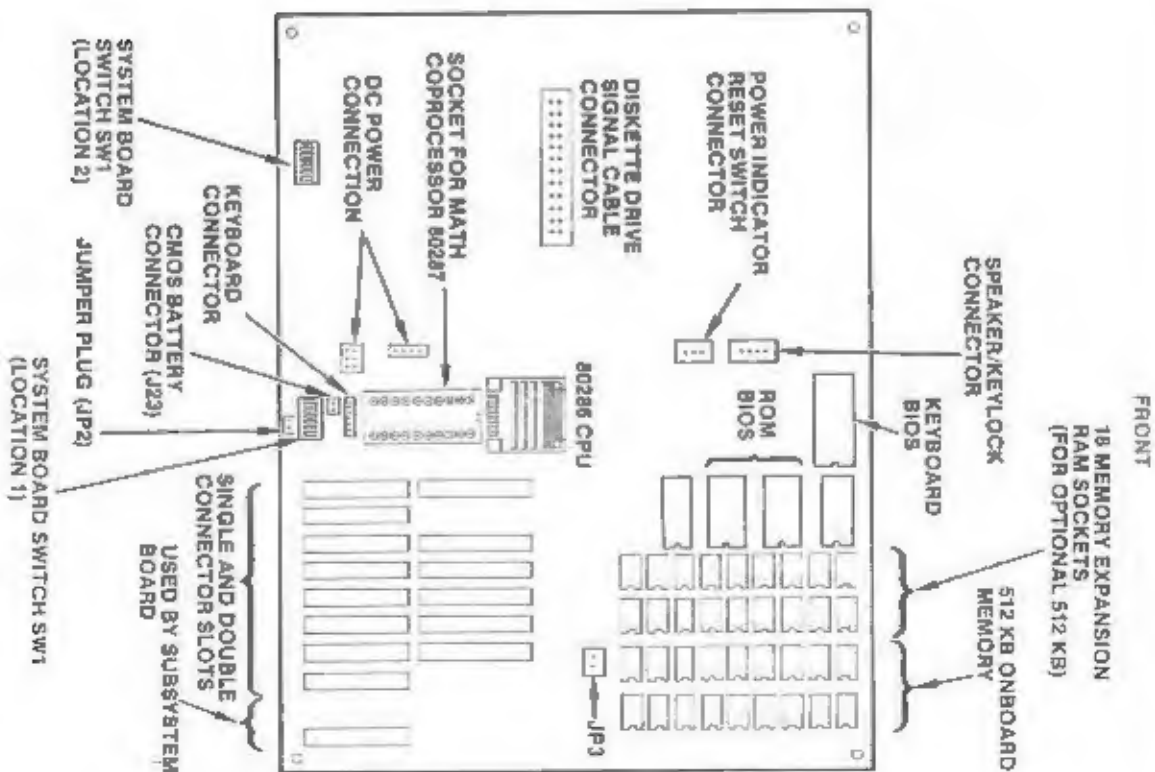
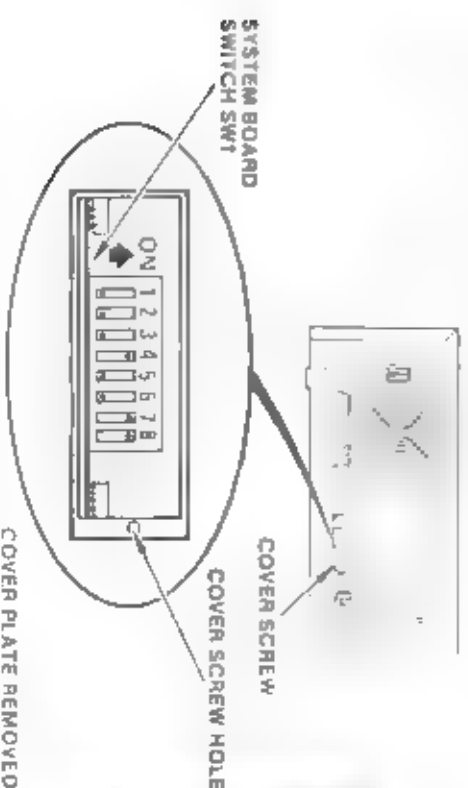

Figure 2-3. System Board
Figure 3-7. System Board SW1 Switch in Location 2
Figure 2-3 identifies connectors, switch SW1, jumper plug JP2, and chip sockets on the system board (the floor of the system unit). The connectors into which the controller boards are inserted are also shown in Figure 2-3.
Some boards must be installed in single or double-connector locations (Figure 2-3); the rest can be used in any location. Examine the bottom edge of the board to see where it will fit.
There are two possible locations for SW1. Figure 2-3 (in section 2.2) shows location 1 (which requires the system unit cover be removed to access the switch) and location 2 (which can be accessed through the serial panel next to the keyboard connector on the rear panel). SW1 in location 1 works in conjunction with jumper plug JP2. SW1 in location 2 does not use JP2; instead it uses switch position SW1-5. Refer to Figure 3-7.
1. As shown in Figure 3-7, remove the screw holding the right end of the rear panel plate.